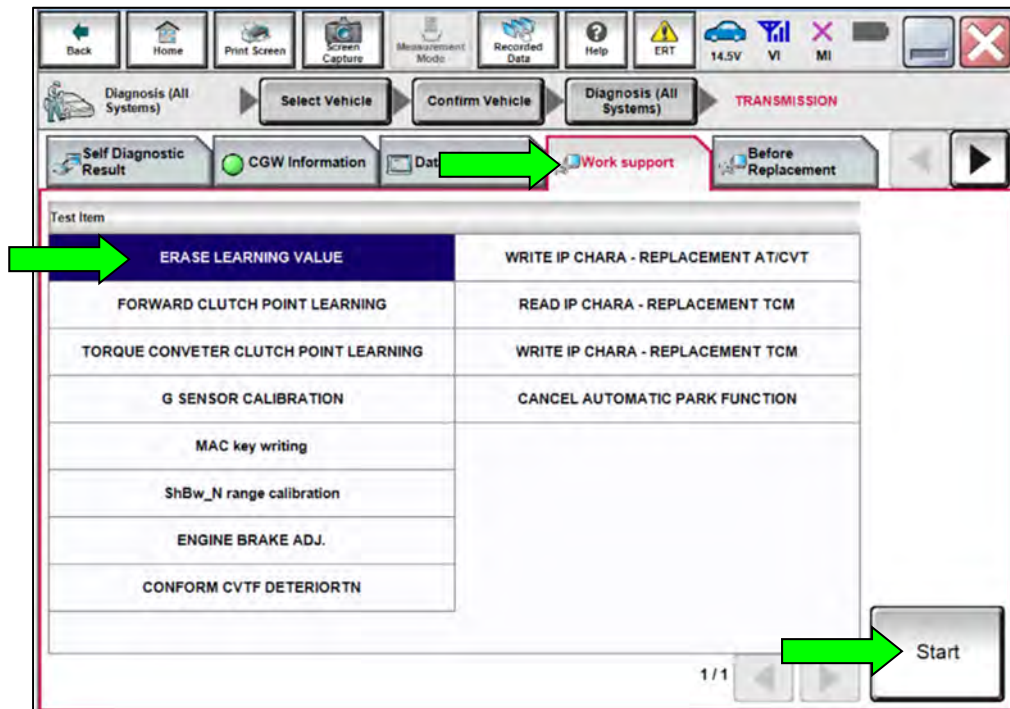

Figure 25
28. Select **FORWARD CLUTCH POINT LEARNING**, and then select **Start** (Figure 25 on page 15).